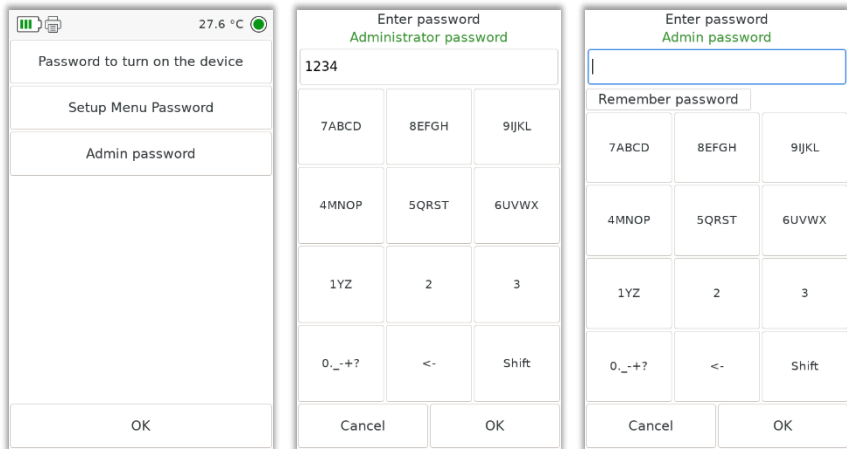

Figure 27 Security window, set and check the password to access the settings
The following options are available: password to turn the device on, password of the Settings menu, administrator password (Figure 27).
- 4.7.8.4. In the password-setting screen, you can select "Remember password". After restarting the spectrometer, you will need to enter your password again (Figure 27). If the "Remember Password" button is not clicked, the device will request a password each time it tries to perform a password-protected action.